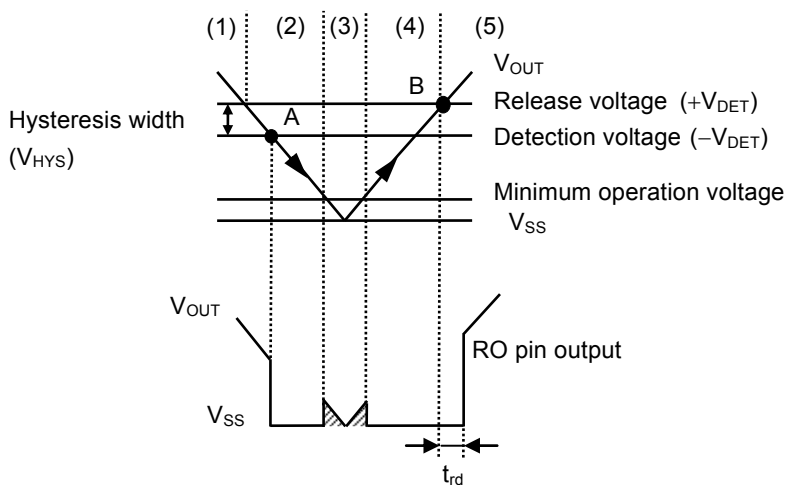

Figure 42 Timing Chart of Detector Block
- (1) When the output voltage (V_{OUT}) of the regulator is release voltage ($+V_{DET}$) of the detector or higher, the Nch transistor (N1 and N2) are turned off and "H" is output to the RO pin. Since the Pch transistor (P1) is turned on, the input voltage to the comparator (C1) is $\frac{R_B \cdot V_{OUT}}{R_A + R_B}$.
- (2) Even if V_{OUT} decreases to $+V_{DET}$ or lower, "H" is output to the RO pin when V_{OUT} is the detection voltage ($-V_{DET}$) or higher. When V_{OUT} decreases to $-V_{DET}$ (point A in **Figure 42**) or lower, N1 which is controlled by C1 is turned on, and C_{DLY} is discharged. If the DLY pin voltage (V_{DLY}) decreases to the lower reset timing threshold voltage (V_{DRL}) or lower, N2 of output stage of C2 is turned on, and then "L" is output to the RO pin. At this time, P1 is turned off, and the input voltage to C1 is $\frac{R_B \cdot V_{OUT}}{R_A + R_B + R_C}$.
- (3) If V_{OUT} further decreases to the IC's minimum operation voltage or lower, the RO pin output is "H".
- (4) When V_{OUT} increases to the IC's minimum operation voltage or higher, "L" is output to the RO pin. Moreover, even if V_{OUT} exceeds $-V_{DET}$, the output is "L" when V_{OUT} is lower than $+V_{DET}$.
- (5) When V_{OUT} increases to $+V_{DET}$ (point B in **Figure 42**) or higher, N1 is turned off and C_{DLY} is charged. N2 is turned off if V_{DLY} increases to the upper timing threshold voltage (V_{DU}) or higher, and "H" is output to the RO pin.